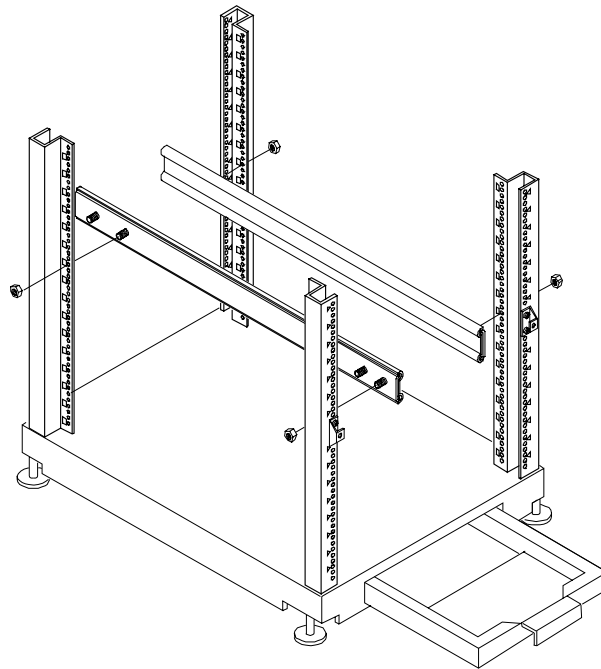

Figure 13-5. Installing the Slides in the Rack
- b. Tighten the nuts (saved from Step 1) onto the slide bolts to secure the slides to the columns. Use the M10 socket Torx driver to tighten the nuts. See Figure 13-5.